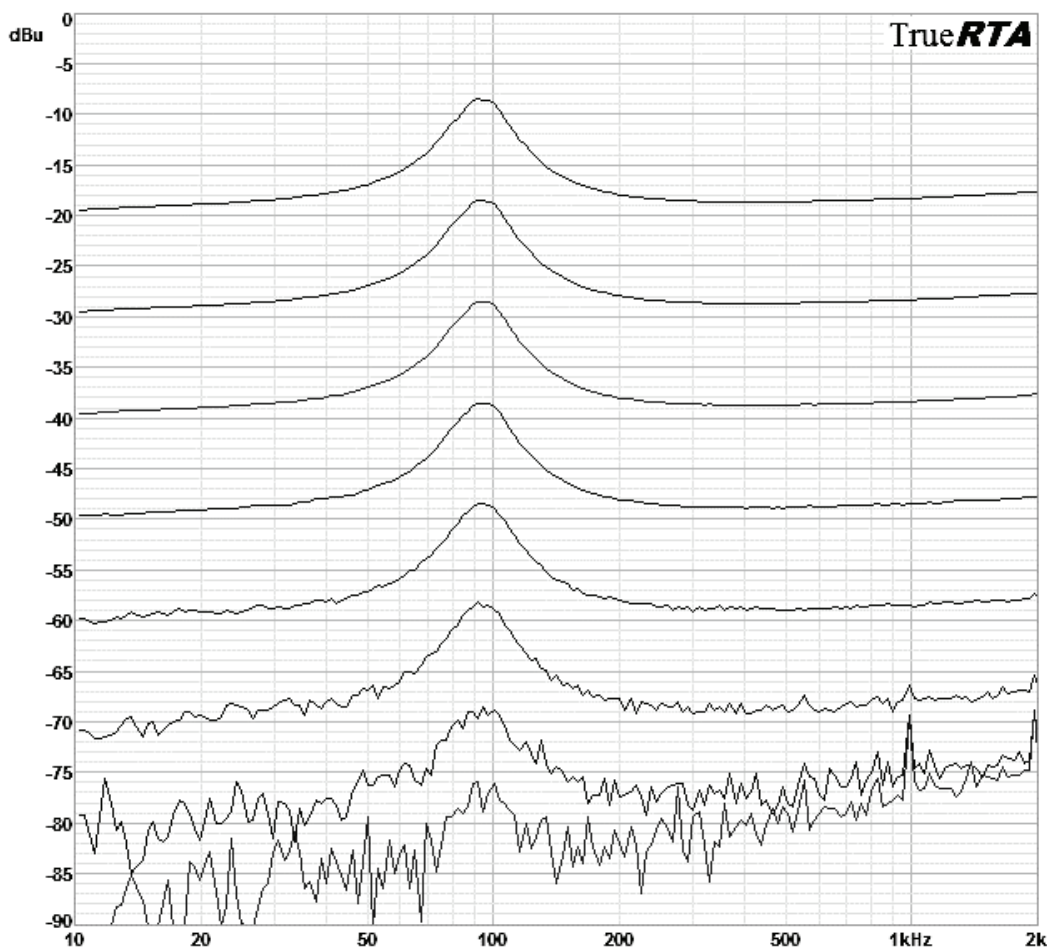

Figure 3.12: Impedance responses measured at progressively lower signal levels for a properly functioning loudspeaker
In fact, a shifting in f_s at high drive levels would indicate the onset of nonlinearity and would not constitute a valid small-signal measurement. At the other extreme, a shift in f_s at low drive levels is an indication that a driver has mechanical obstructions such as debris in the magnetic gap. This behavior is the basis for the rub and buzz test I developed for the Dayton Audio Test System (DATS). For example, Figure 3.12 shows the impedance of a transducer measured at eight different drive levels over a 70 dB range in 10 dB steps. At the lowest drive levels, the resonance vanishes into the noise but the shape (Q) and center frequency (f_s) remain unchanged over the 70 dB range of measurement signal level. This is typical behavior for a well-designed driver.